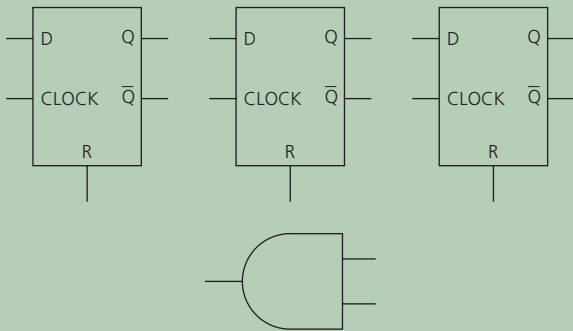

Figure Q9
- ii. Copy and complete the circuit diagram in Figure Q9 for a divide-by-5 counter.